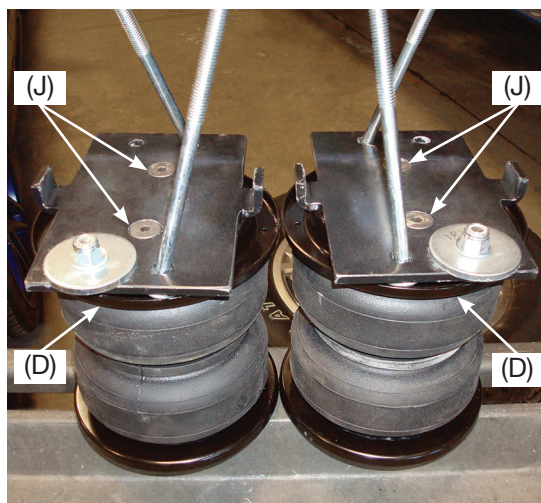

Fig. 12
8. Set a roll plate (D) over the bottom of the air spring and install the lower brackets onto the air spring assembly so that the large washer previously installed will be forward of the axle once installed (Figs. 12 & 13) using the 3/8" flat head screws (J). Torque to no more than 20 lb.-ft. (27Nm).